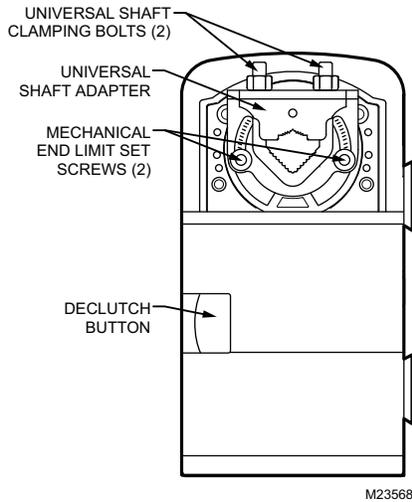

Fig. 1. Series 60 Floating Actuator.
The two mechanical end-limit set screws control the amount of rotation from 12° to 95°. These set screws must be securely fastened in place. To ensure tight closing of the damper, the shaft adapter has a total rotation stroke of 95° (see Fig. 1).
2. The Declutch button, when pressed, allows you to rotate the universal shaft adapter (see Fig. 1).
It is advisable to leave the dampers in an open position after installation to avoid the possibility of over-pressurizing the duct work on fan startup. Use the Declutch button (see Fig. 1 on page 4) to open the box damper on controllers that are powered down, to prevent over-pressurization in the duct work on fan startup. To Declutch, press and hold